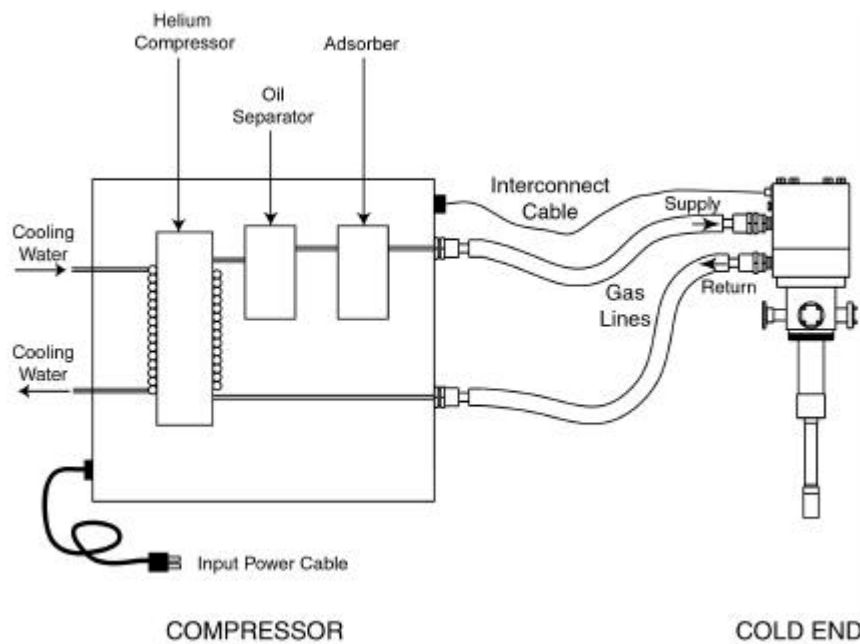

Figure 2.1 Compressor / Cold End Connections
5. The compressor is now ready to be connected to the cold end. See Figure 2.1.